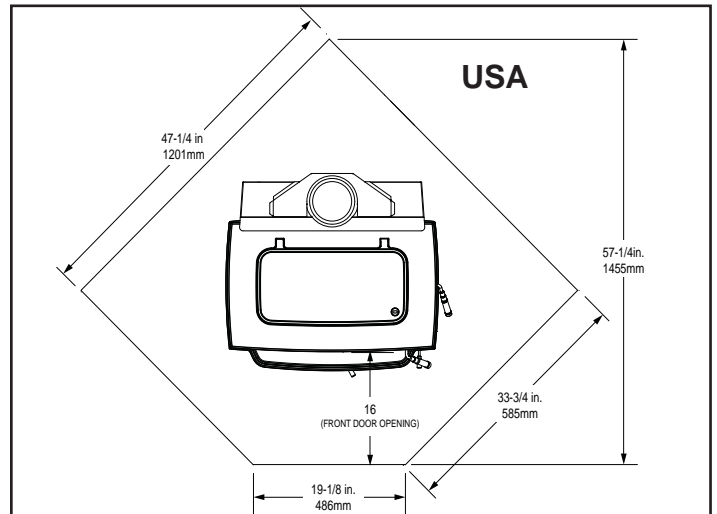

Figure 14.4
***EXCEPTION:** Non-combustible floor protections must extend beneath the flue pipe when installed with horizontal venting and extend 2 inches (51mm) beyond each side. **See Figure 14.4**